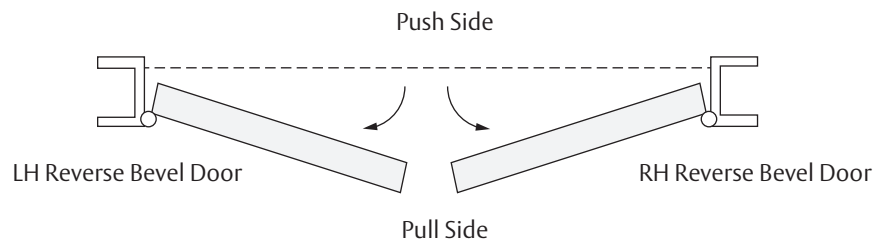

Figure 1
- Before installing, be sure exit device is proper hand for door. (Figure 1)